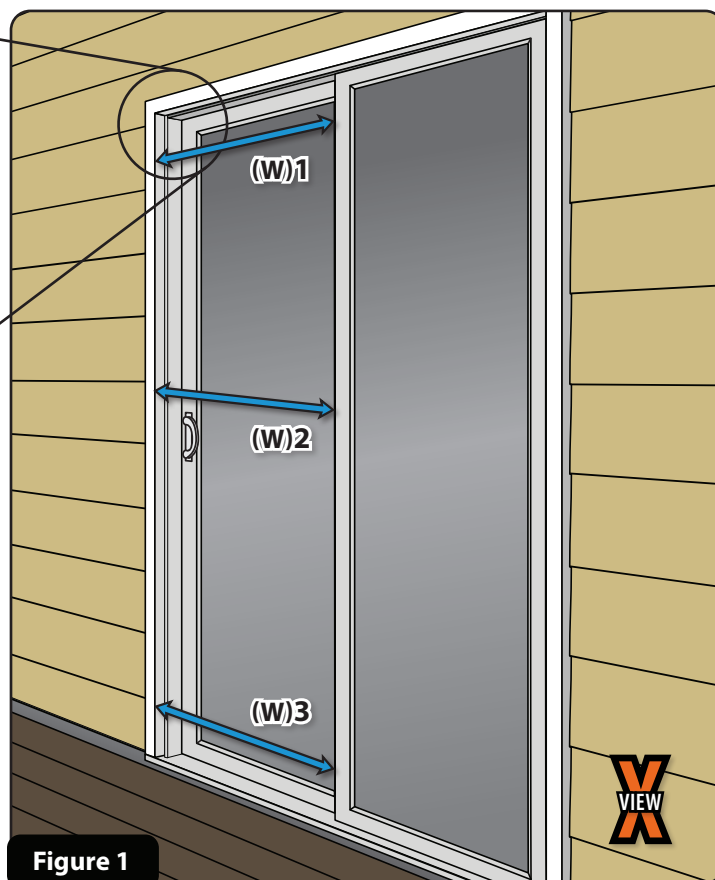

Figure 1
1. Measure the width at the top (W1), middle (W2), and bottom (W3) of the opening (see Figure 1). Measure from the inside of the sliding patio door jamb (frame) to the fixed glass panel frame. Utilizing the narrowest width, reference the chart below.
- a1** Take the three **Jamb Shims** and stack combinations of them, centered into the **Latch Side Frame Channel** on the side of the door where the handle meets the house when closed. Choose the combination of **Jamb Shims** that makes the **Latch Side Frame Channel** flush to exterior edge (see **Figure 1**).
- From exterior view the left side is the **Active Panel** = mark Endcap A the Bottom (**Figure 1**)